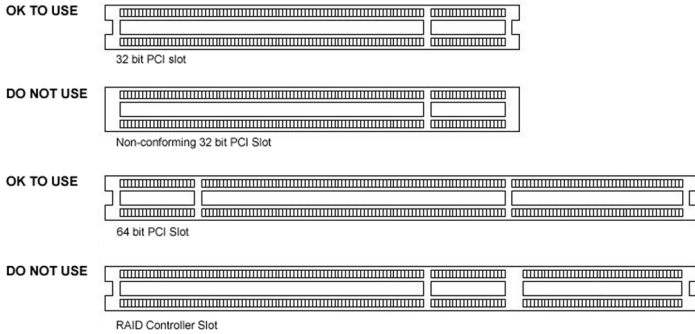

Figure 5: PCI and RAID Controller Slots
Although the BARCOMED CORONIS controller is a 64-bit board, it may be installed in either a 64-bit or 32-bit PCI slot. However, installing it in a 32-bit PCI slot will result in a decrease in performance. Figure 5 illustrates the types of slots so that you can correctly identify which one to use for the BarcoMed Coronis.
4. Install the BarcoMed Coronis Controller into a free PCI slot, either 64-bit or 32-bit (see figure 5, for examples of slots). Be sure that the display controller is seated firmly in the slot.